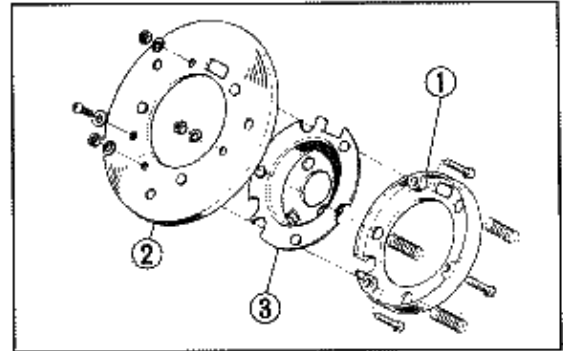

Fig. 10-3 ① Horn Insulator
7. The horn switch can be disassembled as shown in Fig. 10-3.